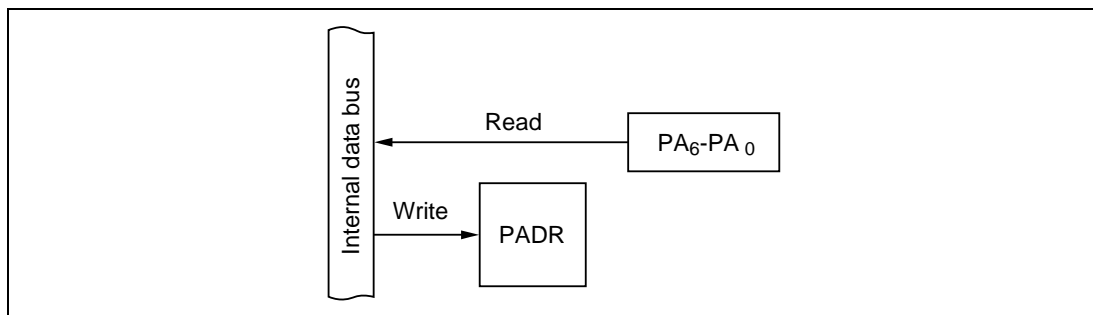

Figure 10-63 Input Port (Modes 1 to 7)
(1) Input Port (PA₆ to PA₄ in Modes 1 to 7; PA₃ to PA₀ in Modes 1, 2, 4, 6, and 7): Figure 10-63 shows a block diagram illustrating the general-purpose input function. Table 10-46 indicates register read/write data. Values written in the port A data register (PADR) have no effect on general-purpose input lines. When read, PADR returns the value at the pin.